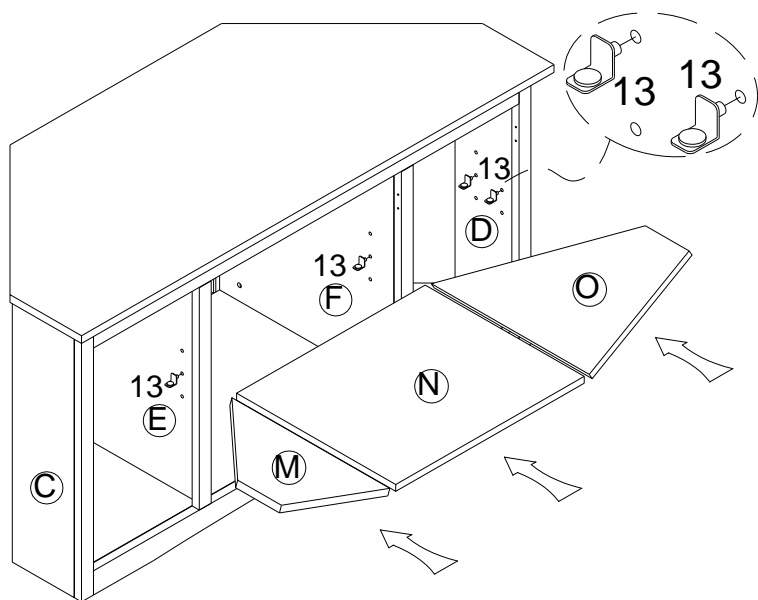

Figure 8
Place Shelves (M) (N) (O) on the Shelf Pins (13) as shown in Figure 8.